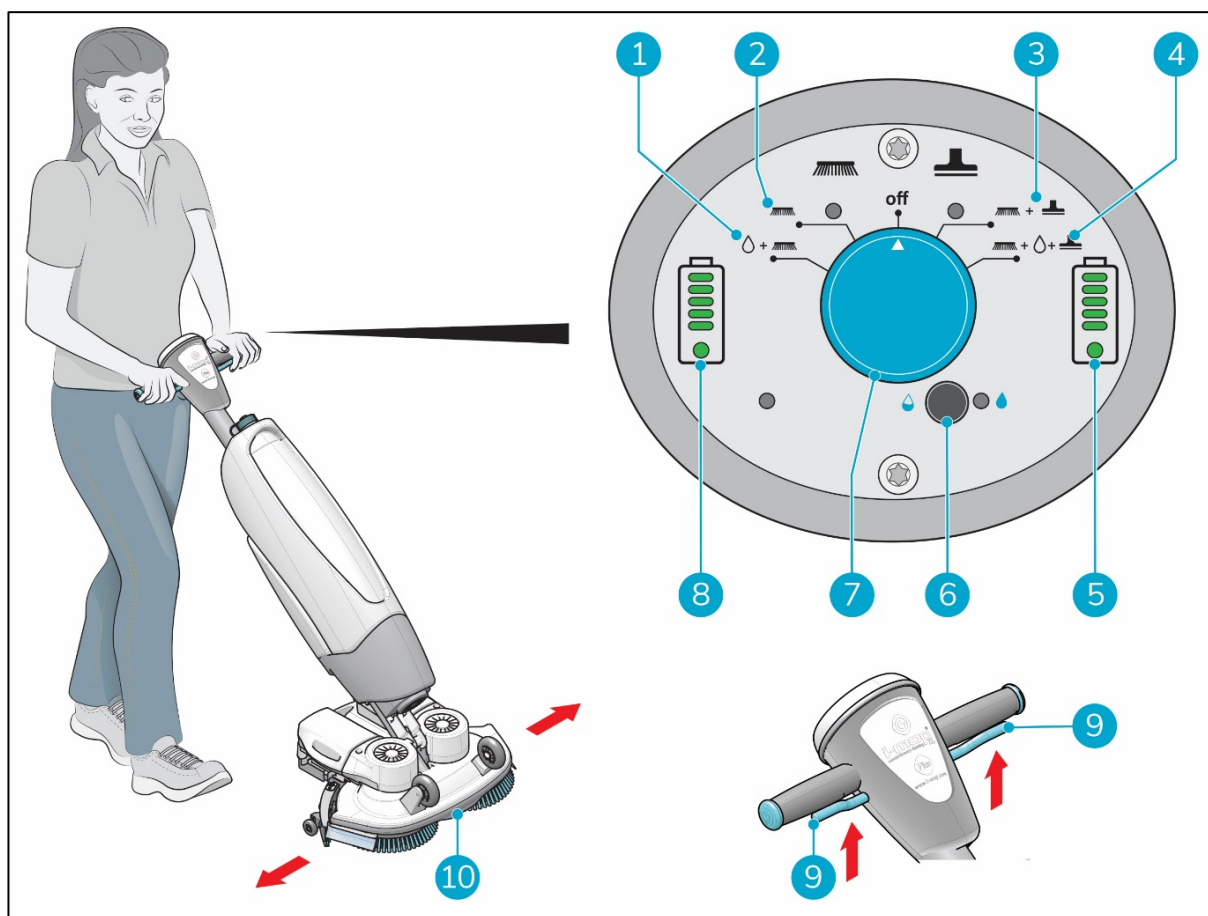

Figure 17
5. Choose your cleaning mode via the main switch (Figure 17, pos 7). This will also turn on the i-mop XXL basic.
- MODE 1: Brush + water/cleaning solution (Figure 17, pos 1).
- MODE 2: Brush only (Figure 17, pos 2).
- MODE 3: Brush + vacuum (Figure 17, pos 3).
- MODE 4: Brush + water/cleaning solution + vacuum (Figure 17, pos 4).
7. Squeeze the trigger on the handle (Figure 17, pos 9).
10. Steer by gently turning the handle left or right to move the scrub deck (Figure 17, pos 10).
11. Releasing the trigger (Figure 17, pos 9) will immediately stop the i-mop XXL basic. The vacuum motor will stop after 3 seconds.